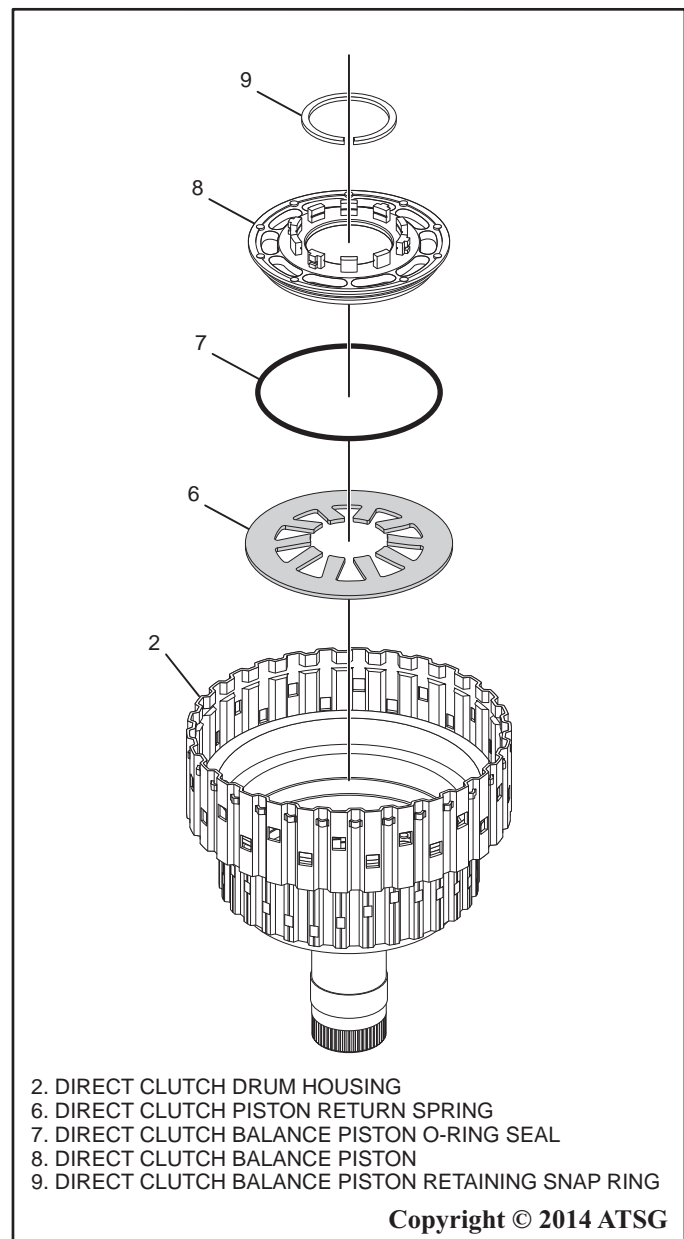

Figure 100
5. Install the direct clutch piston return spring as shown in Figure 100.
7. Install the direct clutch balance piston into the direct drum housing as shown in Figure 100.
8. Using ST Clutch Spring Compressors 307-552 and 307-015, or similar clutch compressing tool and a press, compress the balance piston and install the direct clutch balance piston retaining snap ring as shown in Figure 100 making certain the snap ring is fully seated in the snap ring groove.